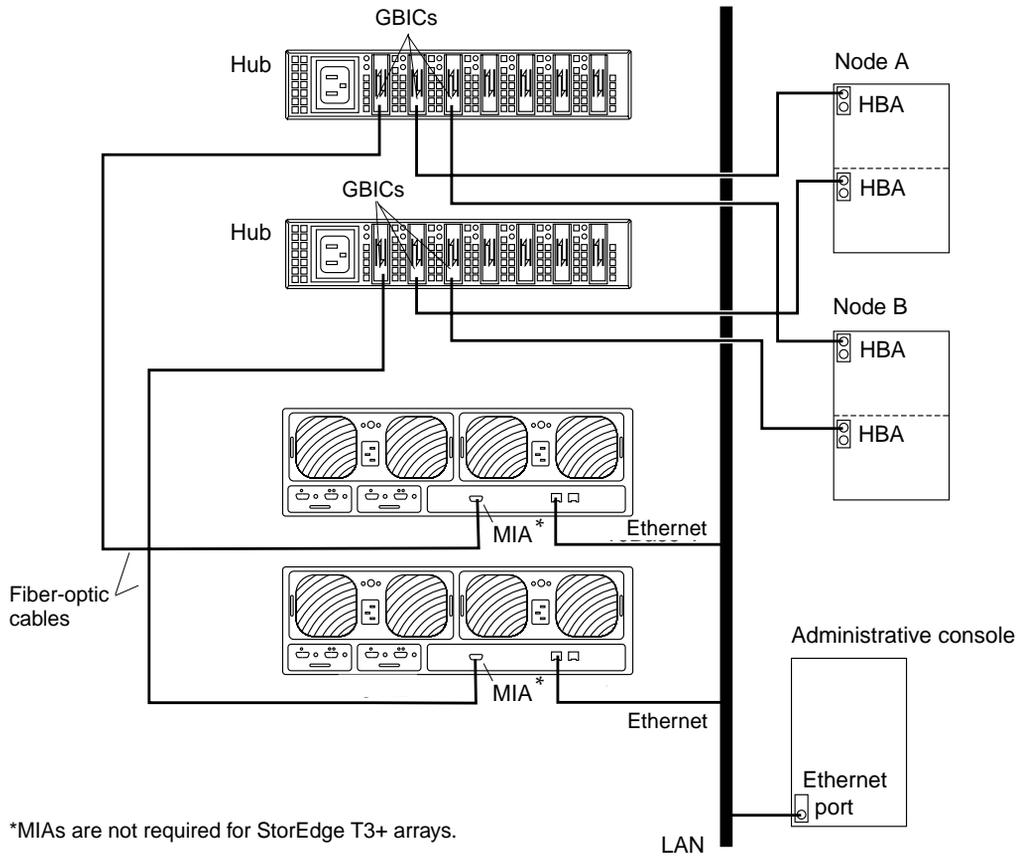

FIGURE 8-1 Cabling StorEdge T3/T3+ Arrays in a Single-Controller Configuration
4. (Skip this step if you are installing a StorEdge T3+ array) Install the media interface adapters (MIAs) in the StorEdge T3 arrays you are installing, as shown in FIGURE 8-1.
5. **If necessary, install gigabit interface converters (GBICs) in the Sun StorEdge FC-100 hubs, as shown in FIGURE 8-1.**
6. **Install fiber-optic cables between the Sun StorEdge FC-100 hubs and the StorEdge T3/T3+ arrays as shown in FIGURE 8-1.**
7. **Install fiber-optic cables between the Sun StorEdge FC-100 hubs and the cluster nodes as shown in FIGURE 8-1.**
8. **Install the Ethernet cables between the StorEdge T3/T3+ arrays and the Local Area Network (LAN), as shown in FIGURE 8-1.**
Note – Although FIGURE 8-1 shows a single-controller configuration, two arrays are shown to illustrate how two non-interconnected arrays are typically cabled in a cluster to allow data sharing and host-based mirroring.